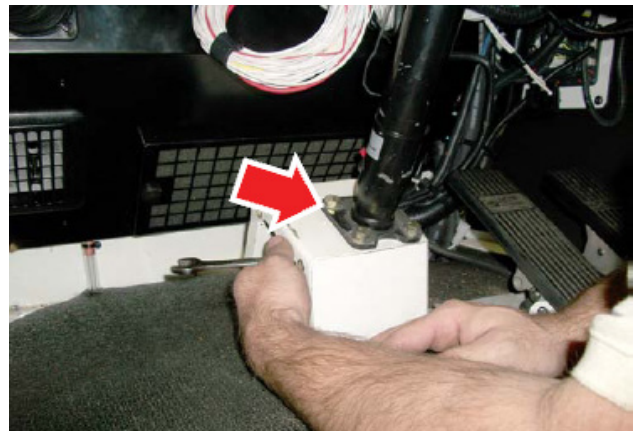

Figure 7
- 9. Remove the (4) lower steering column riser bolts and discard (See Figure 7).